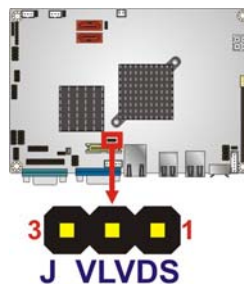

Figure 4-8: LVDS Voltage Selection Jumper Pinout Locations
- Jumper Location: See Figure 4-8
The CAN Bus Terminal Resister jumper location is shown in **Figure 4-8**.
Jumper Location:	See Figure 4-8
The LVDS Voltage Selection jumper location is shown in **Figure 4-8**.